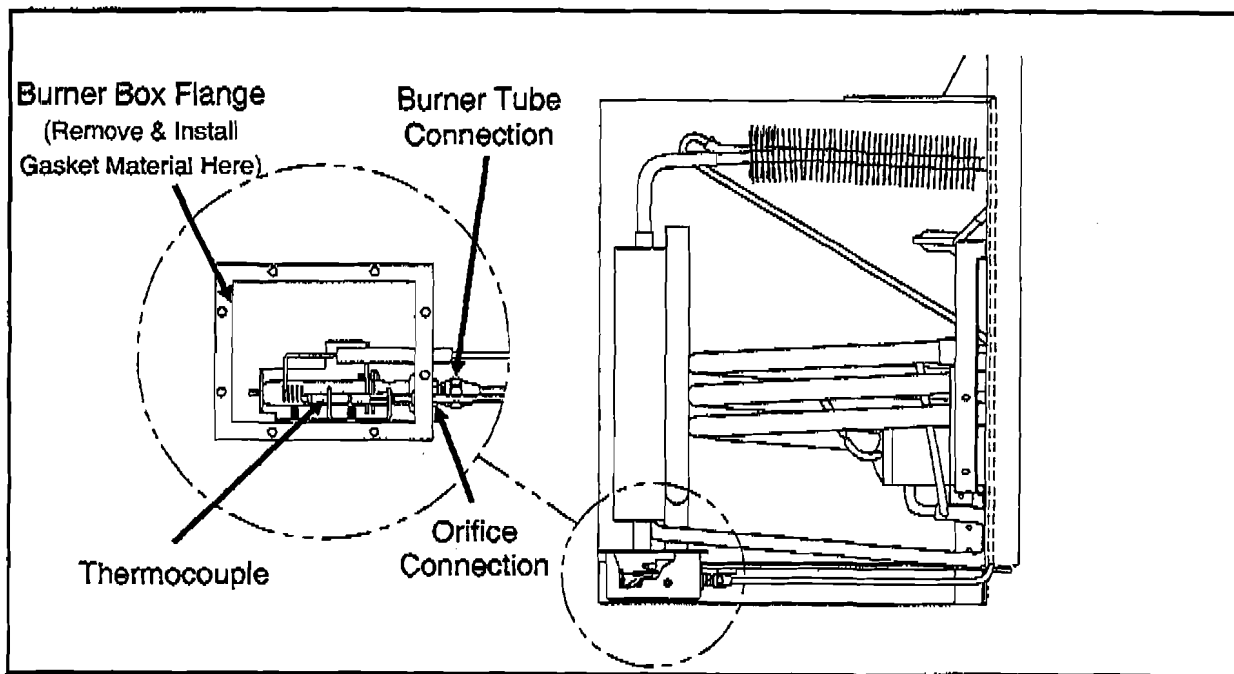

Figure 4 - View of Burner Box
6. Turn the manual shut-off valve located on top of the refrigerator to "OFF". See Figure 4.
8. Disconnect the LP gas supply line from the refrigerator's manual shut-off valve. See Figure 4.
12. Install thermocouple into burner box. Position thermocouple tip over the first slot of the burner as illustrated in Figure 4 above. **Lubricate (Vaseline) thermocouple grommet for ease of thermocouple installation.**